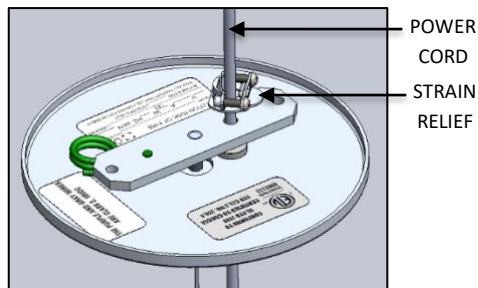

FIG. 40 – STRAIN RELIEF INSTALLATION
31. Install STRAIN RELIEF, ensuring flat side of STRAIN RELIEF rests on MOUNTING BRACKET and tighten screws all the way as shown below in FIG. 40 & 41.